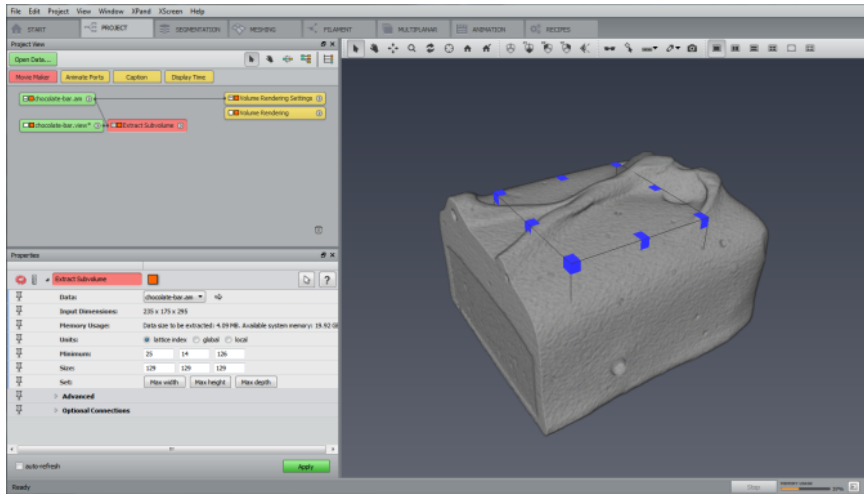
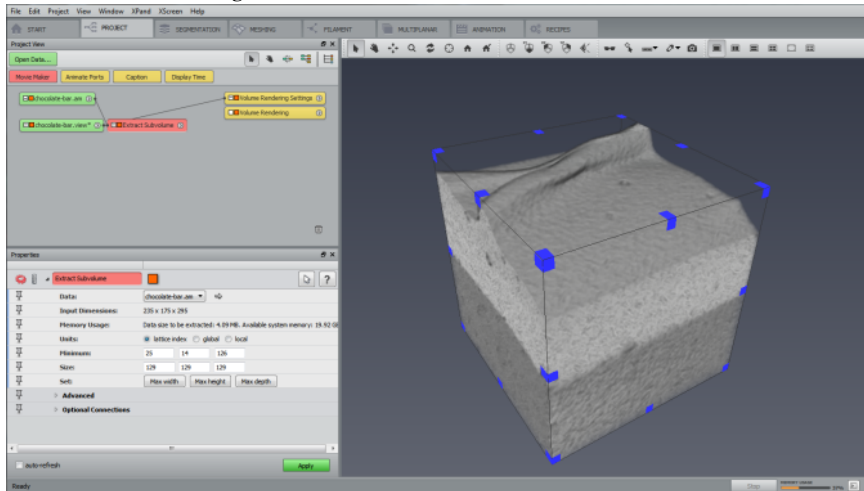

Figure 5.10: Extract Subvolume on *chocolate-bar.am*
Figure 5.11: Extracted Subvolume
- Attach an *Extract Subvolume* module to `chocolate-bar.am` data and extract a small portion of the image (see Figure 5.10 and Figure 5.11).